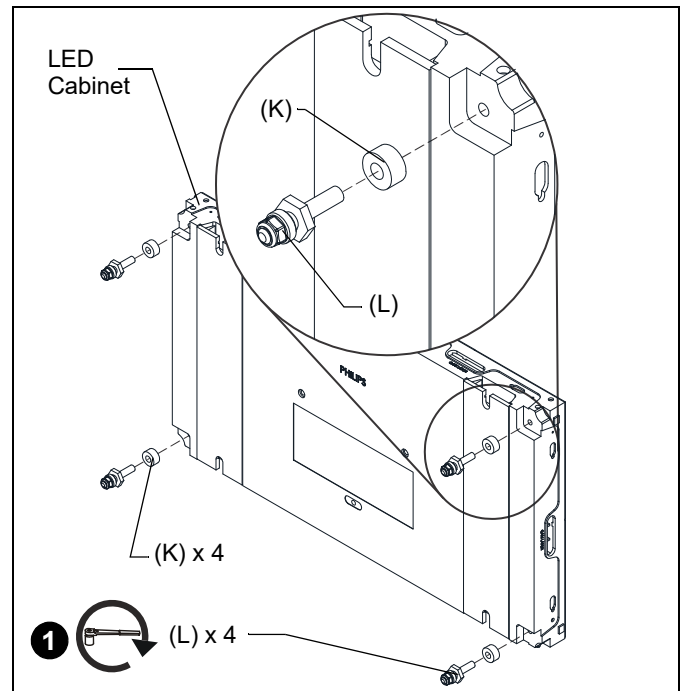

Figure 20
1. Attach four mounting buttons (L) and four spacers (K) to each LED cabinet, one to each corner of the cabinets. (See Figure 20)